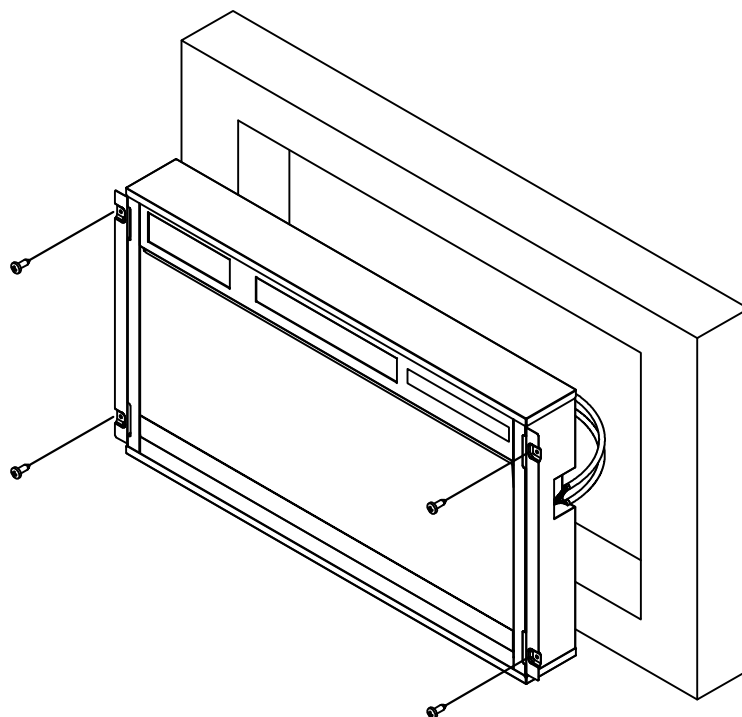

Fig.3
- For best viewing, mark the left and right screws (where the mantel is fixed according to the hole in the fireplace).(Fig.3)